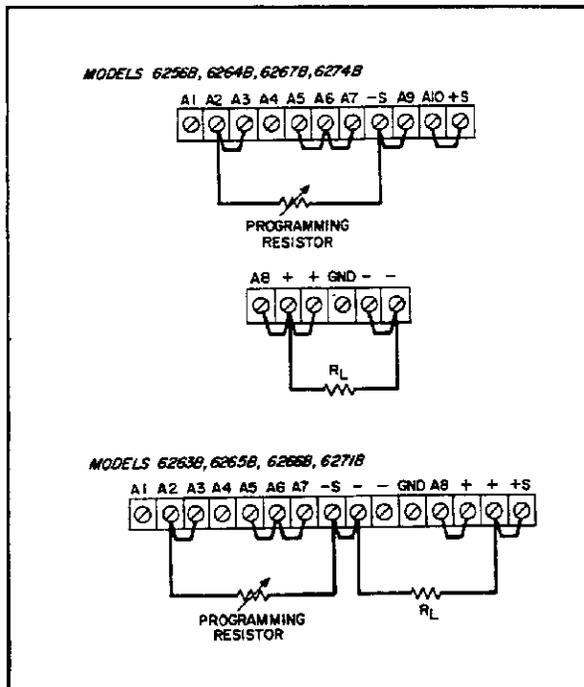

Figure 3-4. Resistance Programming of Output Voltage
**3-37 Constant Voltage Output, Resistance Input.** The rear panel connections shown in Figure 3-4 allow the output voltage to be varied by using an external resistor to program the supply. The supply's constant voltage programming current determines its programming coefficient. In the Models 6256B, 6263B, 6264B, 6265B, 6266B, and 6267B, this programming current is factory adjusted to within 1% of 5mA, resulting in a programming coefficient of 200 ohms per volt. In the Models 6271B and 6274B, a programming current of 3.33mA  $\pm$ 1% produces a programming coefficient of 300 ohms per volt. If a greater programming accuracy is required, it can be obtained either by changing resistor R13 as discussed in paragraph 5-74 or, if the instrument is equipped with Options O20 or O22, by adjusting potentiometer R122 as discussed in paragraph 5-75.